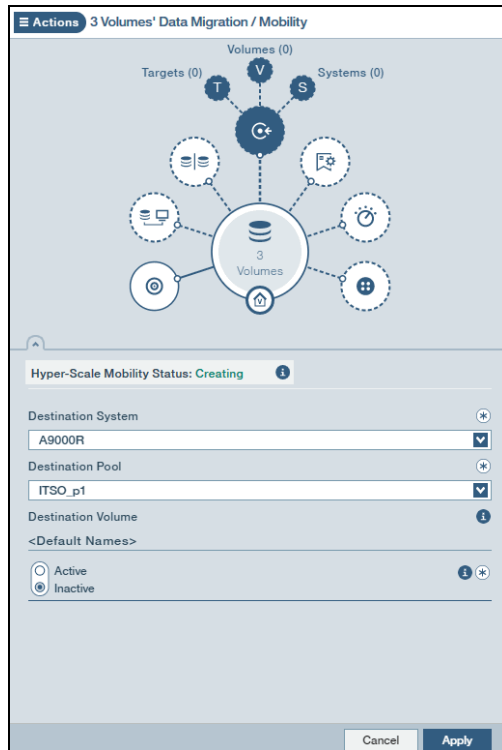

Figure 7-10 Creating an Online Volume Migration
2. After selecting the mobility option, enter the information for the Destination System and pool, as shown in Figure 7-10. In this example, multiple volumes have been selected so the system will automatically name the volumes as they are created on the destination system.